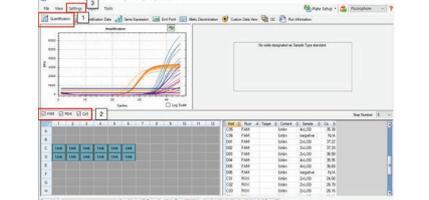

Figure 3. CFX Manager™ Software v3.1
- 1 In the "Quantification" (#1) Window (Figure 3), select only one fluorophore (#2) located below the "Amplification". Select "Protocol..." from the "Open" drop-down menu.